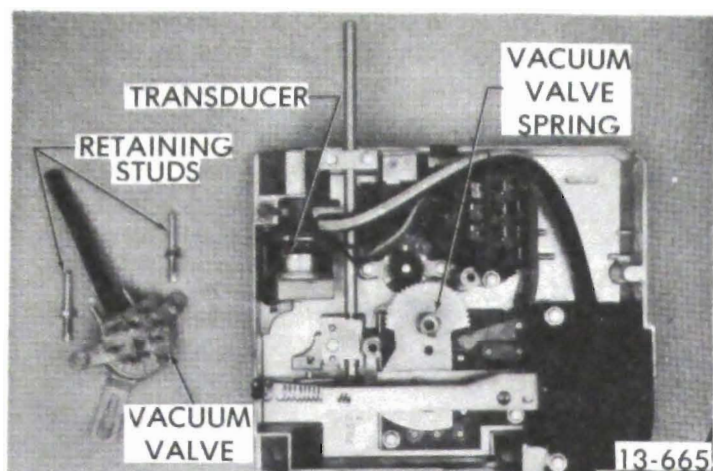

Figure 13-145 Vacuum Valve - Removed
1. Make certain vacuum valve spring is in place. Refer to Figure 13-145.
5. Reconnect the two (2) vacuum hoses going from the two (2) outboard side ports of the vacuum valve to ports 3 and 5 of vacuum checking relay.